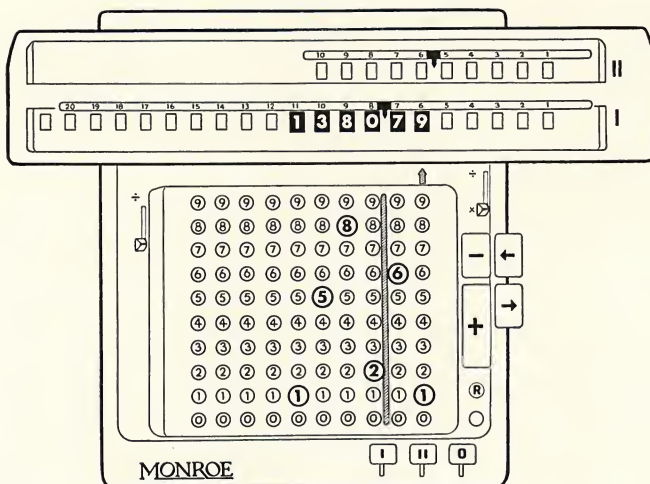

Figure 19
Step 2—Change keyboard set-up to 1582.61. Depress minus bar once. The amount of increase, 1380.79, appears in the lower dials as shown in Figure 19.